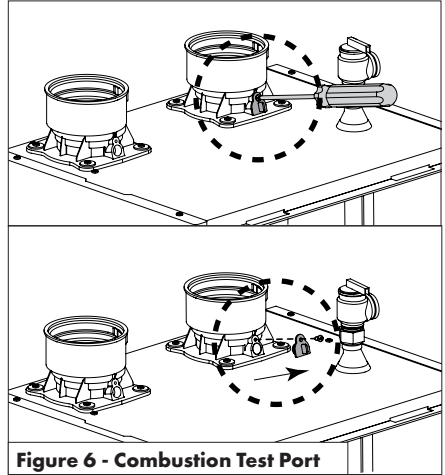

Figure 6 - Combustion Test Port
3. Reinstall the combustion test port. See Figure 6.